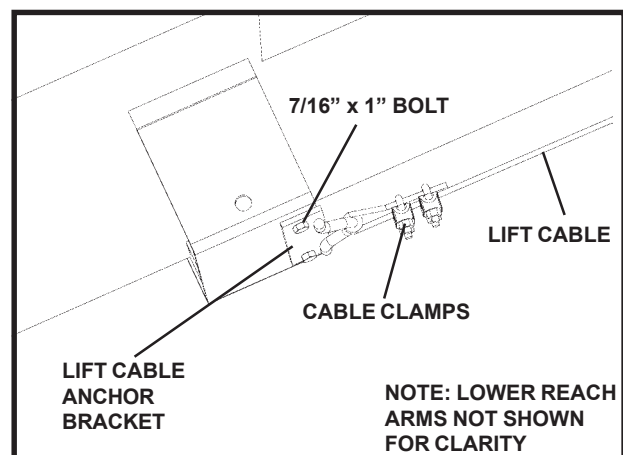

Figure No. 19
3. Attach lift cable anchor bracket to the mounting bracket on the lower tube with two 7/16" x 1" bolts and locknuts (see **Figure No. 19**).
5. Wrap cable 1-1/2 times around the rod on the lift cable anchor bracket and secure with two 1/4" cable clamps. Position cable clamps as shown (see **Figures No. 19 and 20**). Tighten clamps **securely**.